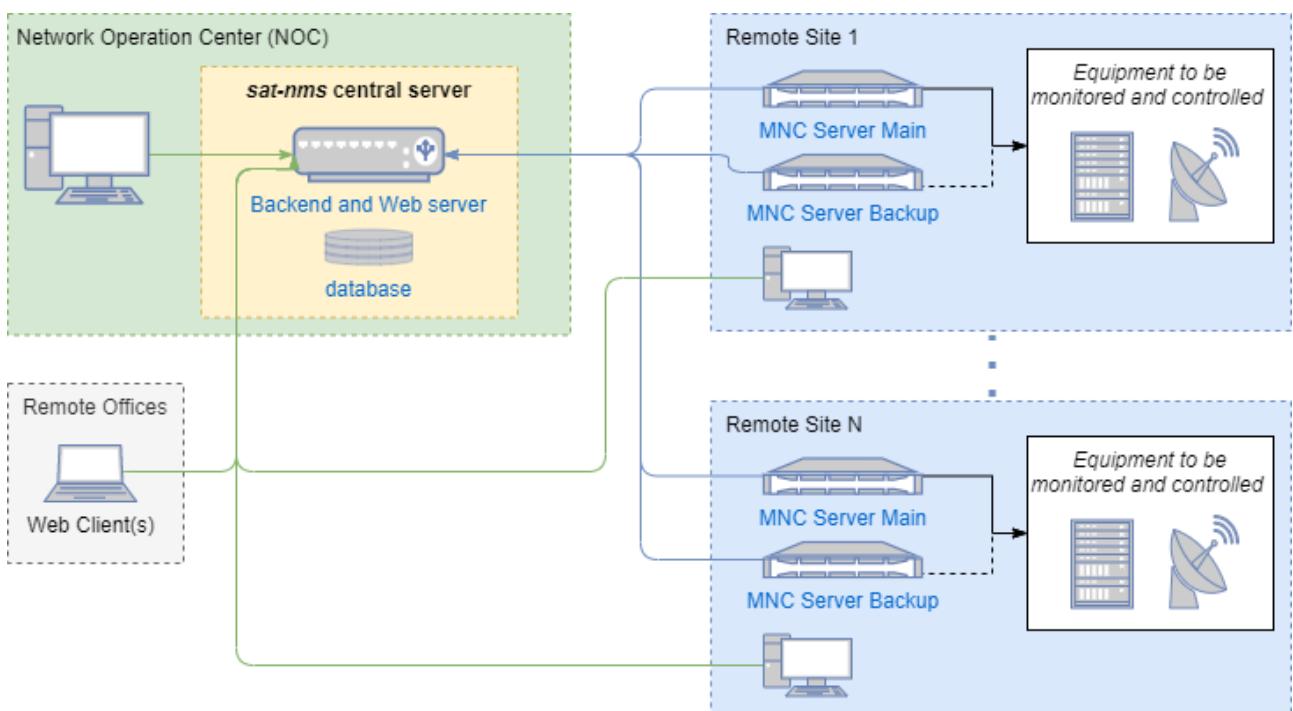

Figure 3: multi-site setup with central server and redundant MNC's at each remote site
- MNC systems distributed over different sites with a central backend and database (Figure 3)